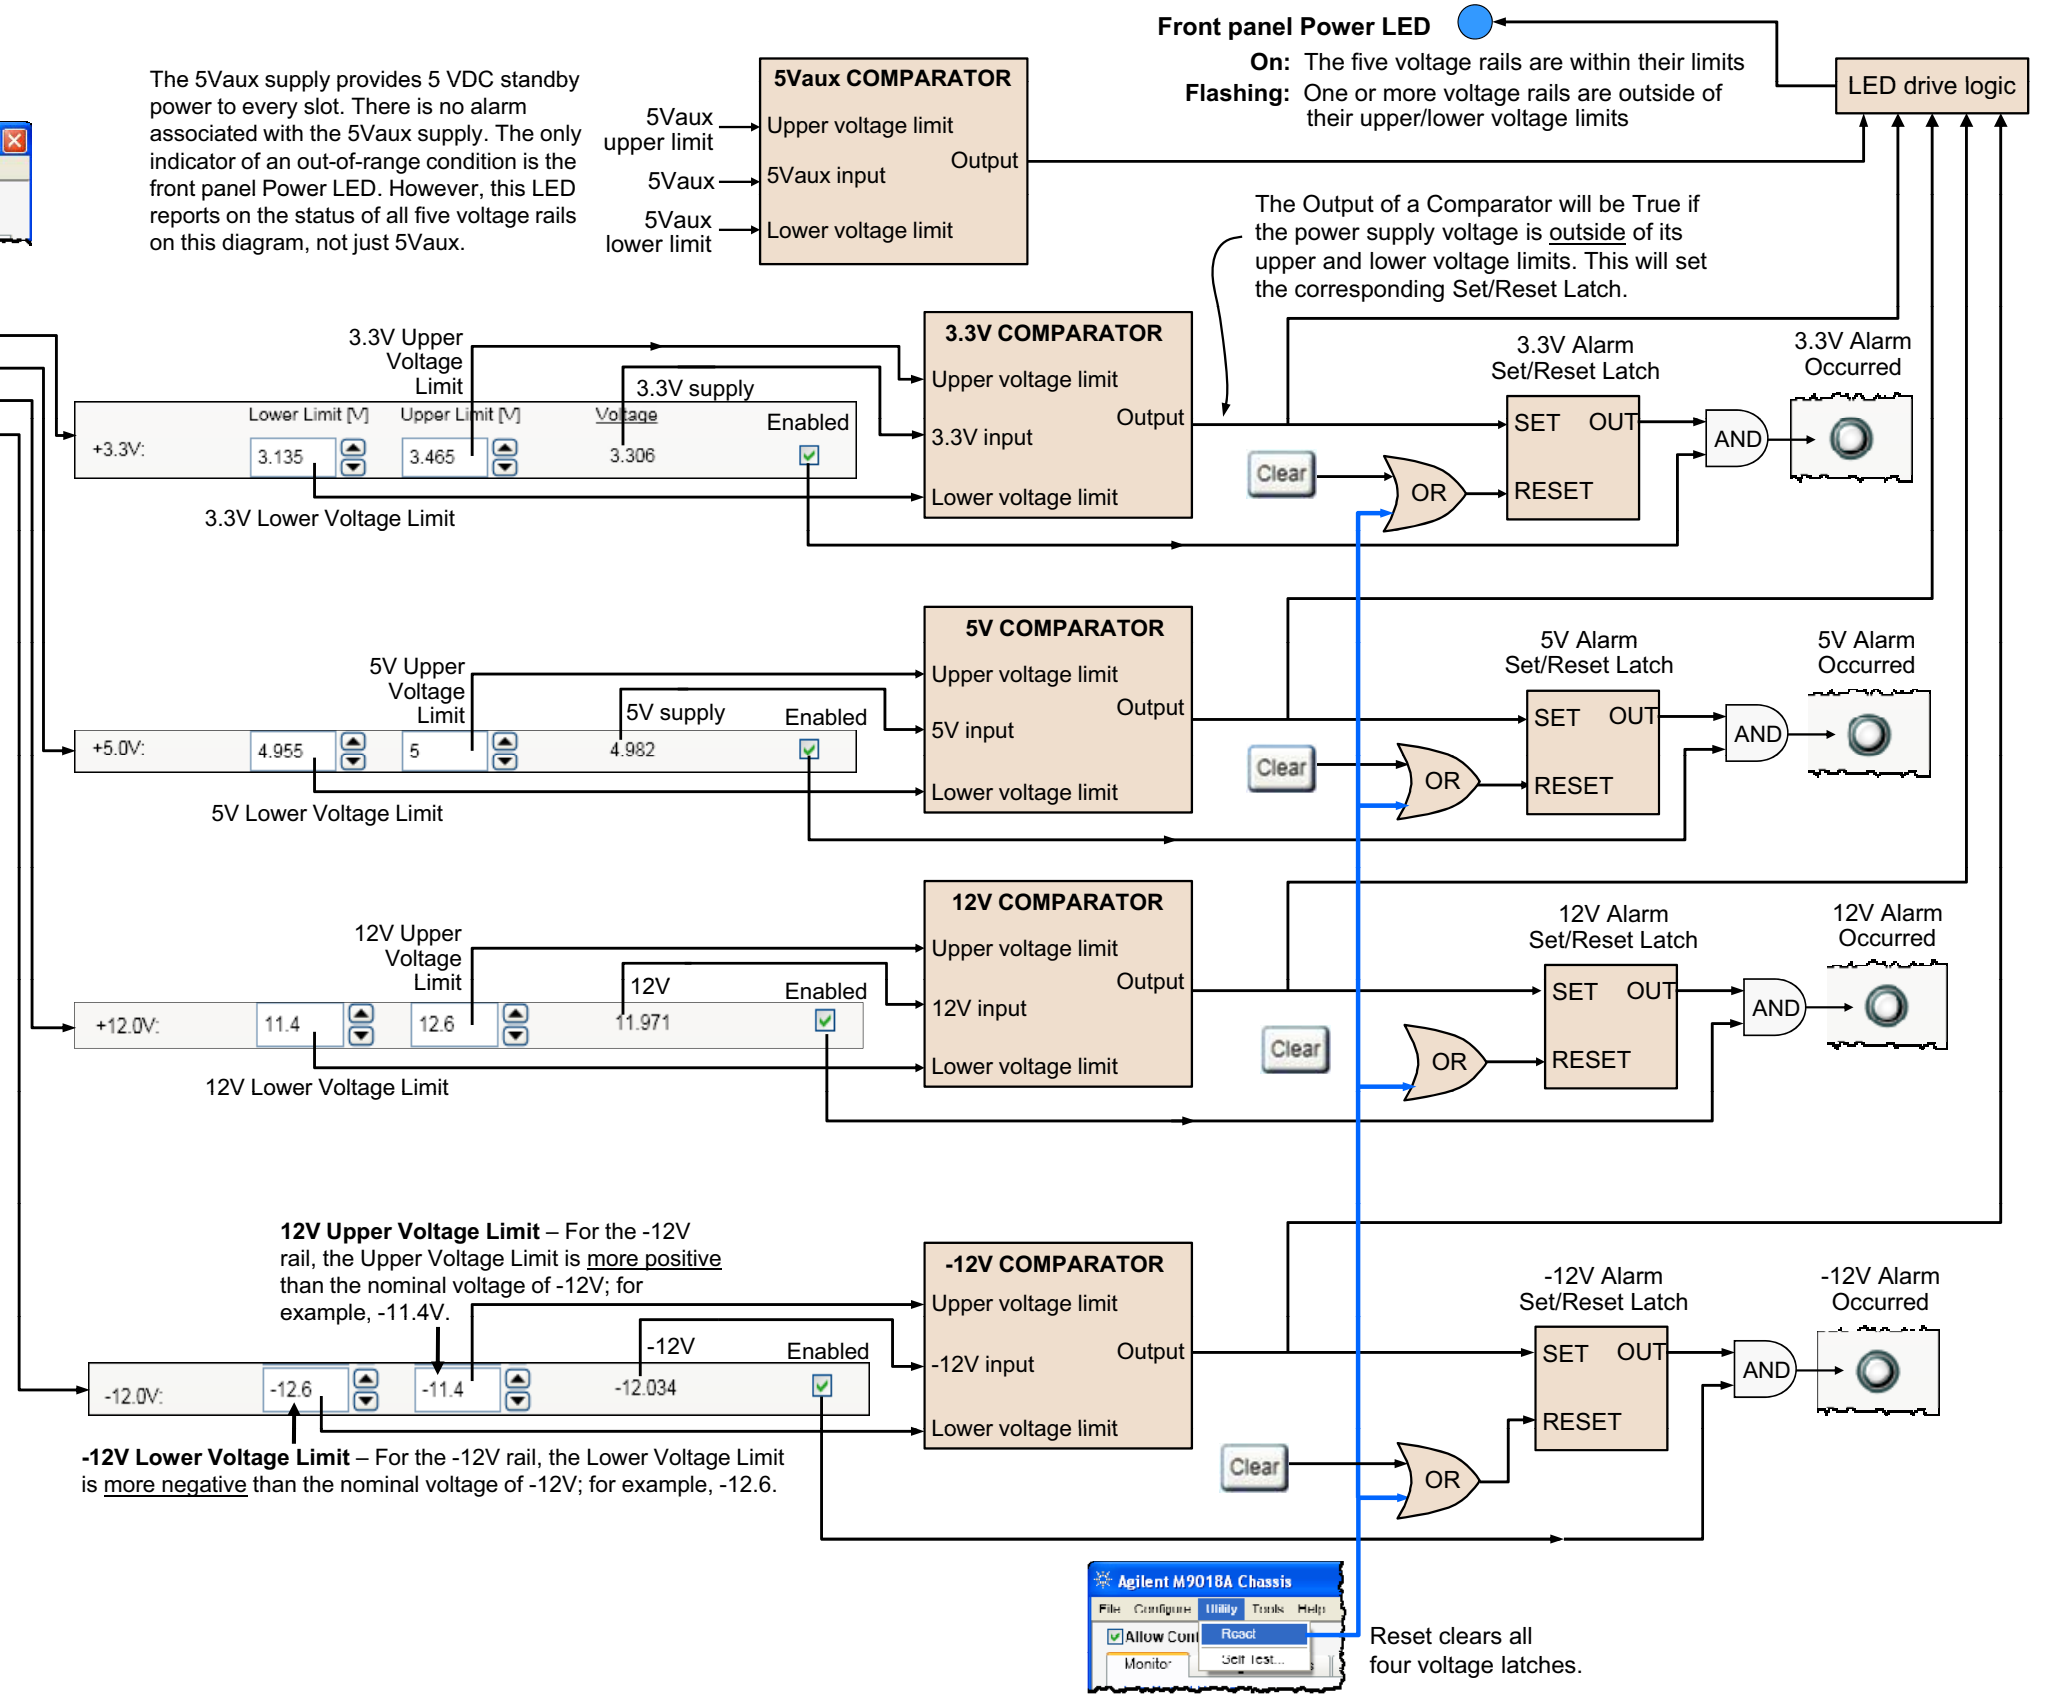

Figure 27
- Soft front panel (SFP) and the front panel Power LED – **Figure 27** on page 54